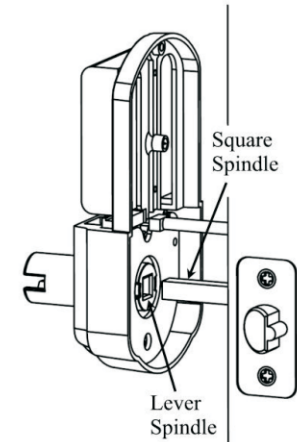

fig. 3
1.3 Make sure to keep the inside of the chassis vertically aligned during installation. Connect and arrange the wires to ensure that they are not pinched or crushed at any point during installation. The Square Spindle should slide smoothly into the square hole on Lever Spindle (see fig. 3).